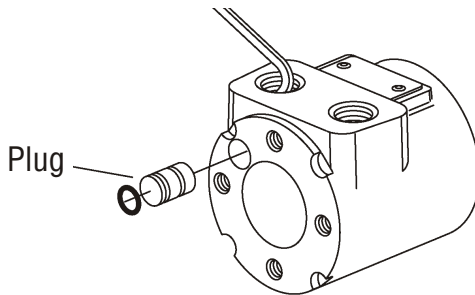

Figure 5-26, Housing Plug
10. A metal plug, with seal, plugs a machining hole in the housing. It is not necessary to remove the plug and replace seal unless leakage occurs around the plug. To remove the plug, insert a 5 mm (.187 in.) hex key through the port opening and push it out. (Figure 5-26)